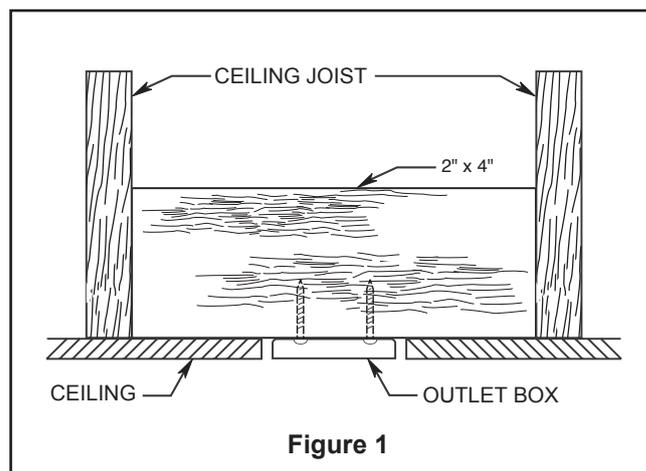
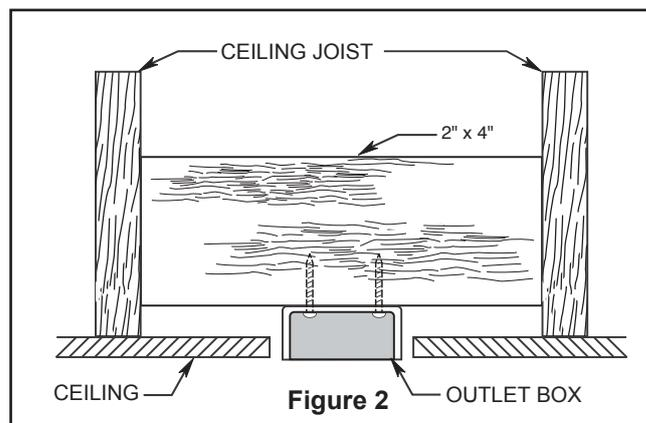
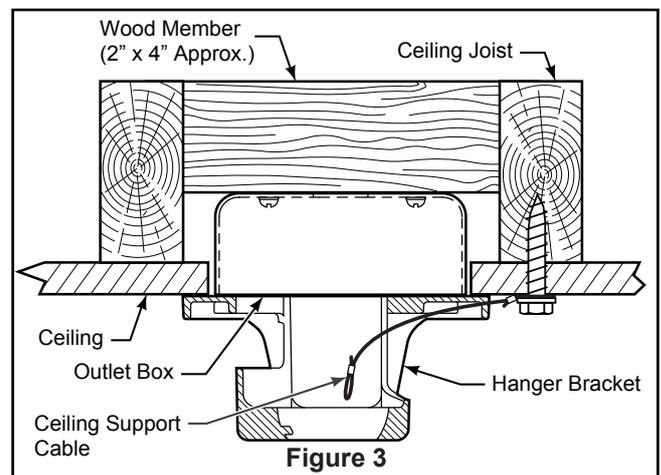

Figure 1
Figure 2
Figure 3
Your new ceiling fan will require a grounded electrical supply line of 120 volts AC, 60 HZ, 15 Amp Circuit. Electrical code requires use of a fan-rated outlet box to support the extra weight and motion associated with a ceiling fan. A fan-rated box will be labeled as such and typically supports up to a 70lb ceiling fan. Fan-Rated Outlet Boxes vary in ratings and design. Ensure the ratings of your ceiling fan outlet box meet the requirements for the ceiling fan being installed. Figure 1, Figure 2 and Figure 3 depicts different structural configurations that may be used for mounting the outlet box.
Low profile box (Figure 1)
Deep box (Figure 2)
Deep box with brace (Figure 3)
3. Loosen the two set screws and locking nuts in the downrod support of the motor assembly. Route the brown, blue, red, gray and yellow wires and safety cable through the downrod. (Figure 3)
1. Securely attach the hanger bracket to the outlet box using the outlet box screws and washers supplied with the outlet box. (Figure 3)
2. Drill a 1/4" pilot hole into the building structure to prevent splitting or cracking with installation of the lag bolt. Using the 3/8" x 2" lag bolt and flat washer, attach safety cable to ceiling joist or wood structural member. The lag bolt will pass through the flat washer, safety cable loop, and into the building structure. (Figure 3) **NOTE:** Ceiling support cable cannot be secured to outlet box only, it must be directly secured to ceiling joist or structural member using the 3/8" x 2" lag bolt and flat washer. (Figure 3)
- 2. Slide the receiver into the hanger bracket before wiring as shown in figure 3.
3. Attach assembled blades and blade holders to the motor hub using the provided screws with lock washers from the hardware bag. Make sure the screws securing the blade holders to the motor hub are tight and that the blade holders are properly seated. (Figure 3)
3. Remove the battery cover from remote control by screwdriver and retain the screw for later. (Figure 3)